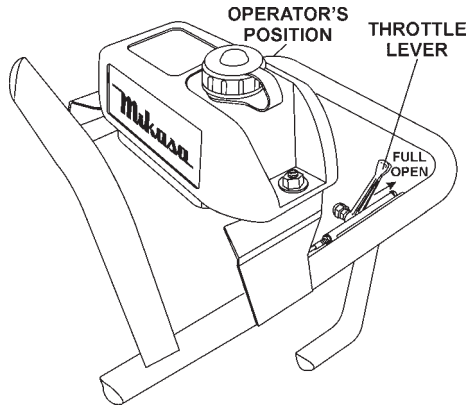

Figure 9. Throttle Lever (Full Open)
1. To start the rammer tamping action, move the throttle lever (Figure 9) **quickly** from **IDLE** (close) to the **FULL OPEN** position. **DO NOT** move the throttle lever slowly as this may cause damage to the clutch or spring.